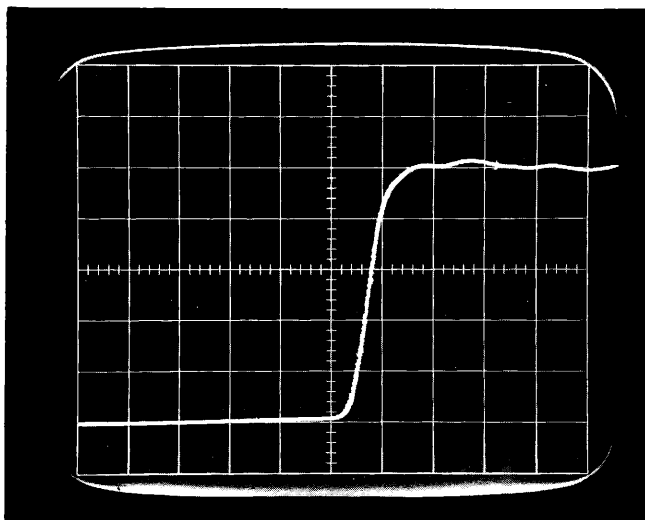

Fig. 5-35. Correct pulse rise position after adjusting DELAY ZERO control, Step 22.
Other Controls	Display like Fig. 5-35
c. Adjust the DELAY ZERO control until the pulse rise crosses the graticule centerline between 5.5 and 6.0 divisions from the start of the trace (see Fig. 5-35).